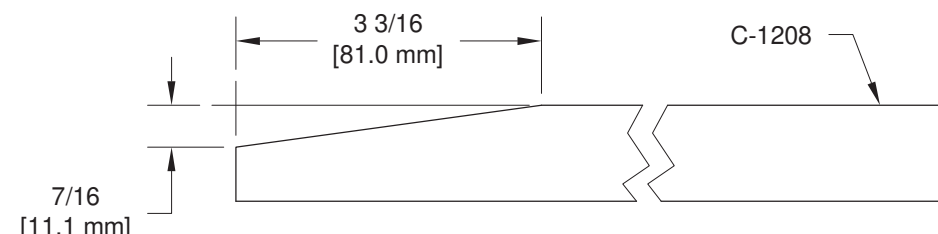

FIGURE 3: TRIM CANOPY FOAM
Step 4: Trim each C-1208 Canopy Foam as shown in Figure 3.